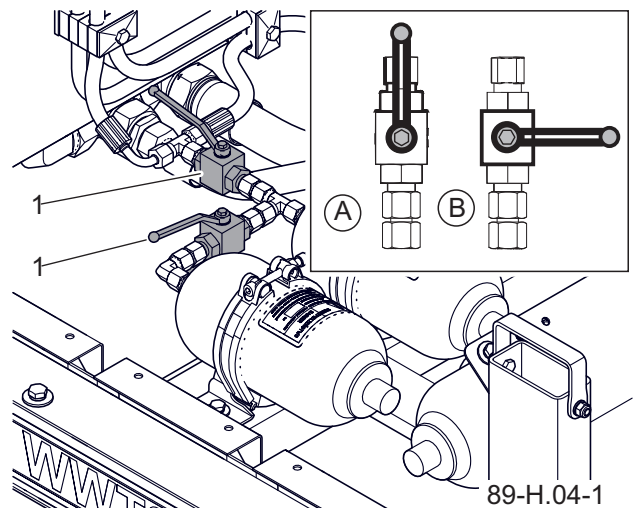
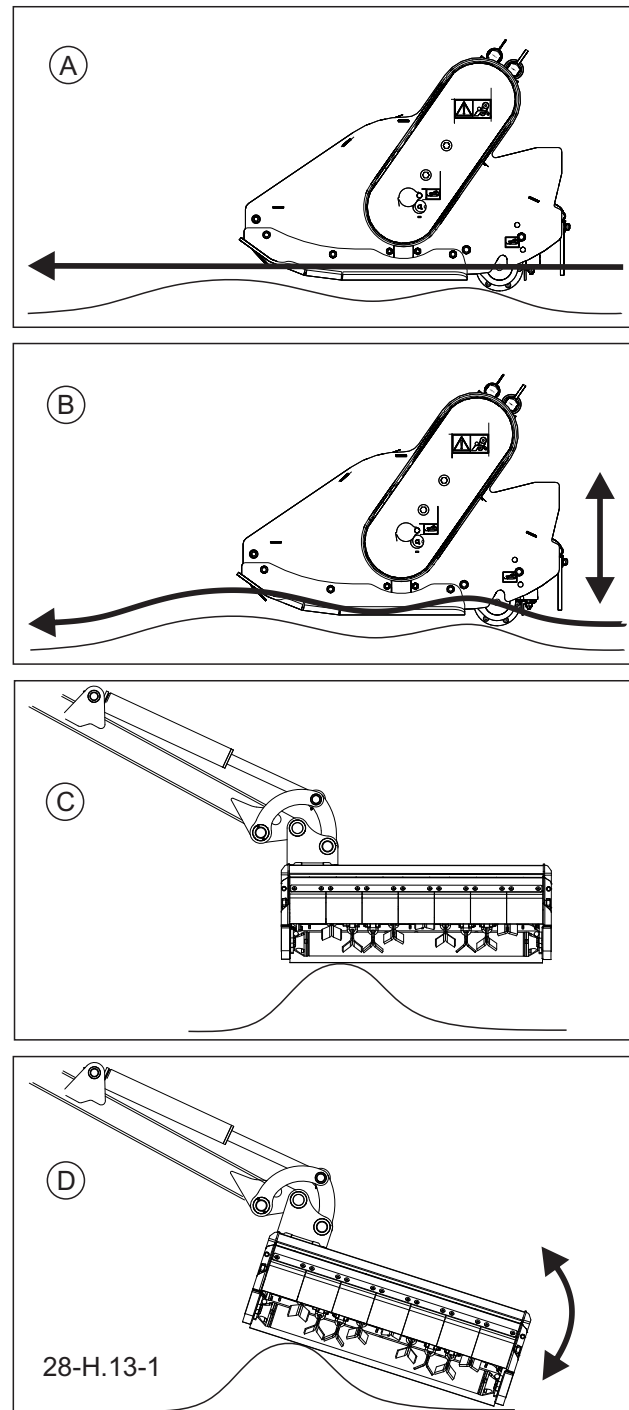

Figure 4.14 Arm shock absorption unit
Figure 4.15 Arm shock absorbing function and head tilt floating position function.
When the working head moves along an uneven ground and requires frequent changes of its titling position, enable the floating position function for the titling of the working head by moving control lever (4) to position (F) (FIGURE 4.6) (WWT800T) or pressing button (6) (FIGURE 4.7) (WWT804T). At the time, the head changes its titling position smoothly and adjusts its setting to the ground irregularity (D) (FIGURE 4.15).
When the working head is operated at the ground level and requires the function of tracking the ground surface along which it moves in the vertical plane, enable the arm shock absorbing function by opening as needed (A) valve (1) of the arm shock absorbing unit (FIGURE 4.14) (WWT800T) or turning on the switch (8) (FIGURE 4.7) (WWT804T). At the time, the arm of the multifunction arm changes its vertical position smoothly and adjusts the head's setting to the ground irregularities (B) (FIGURE 4.15).
When the working head is operated with the arm of the multifunction arm raised, disable the working head's tilt floating position with control lever (3) (FIGURE 4.6) and the arm's shock absorption function (option) by closing (B) valve (1) of the arm's shock-absorption unit (FIGURE 4.14).